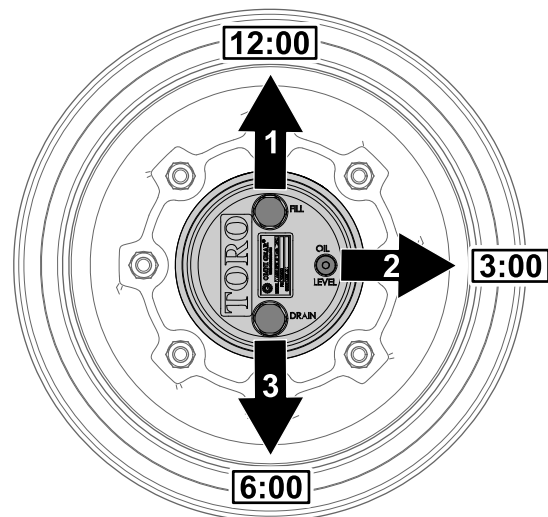

Figure 90
1. Park the machine on level surface, position the wheel so that the fill plug is at the 12 o'clock position, the check plug is at 3 o'clock position, and the drain plug is at the 6 o'clock position (Figure 90).
2. Remove the check plug at the 3 o'clock position (Figure 90).
1. Park the machine on level surface, position the wheel so that the fill plug is at the 12 o'clock position, the check plug is at 3 o'clock position, and the drain plug is at the 6 o'clock position; refer to Figure 90 in Checking the Planetary Gear-Drive Lubricant (page 61).